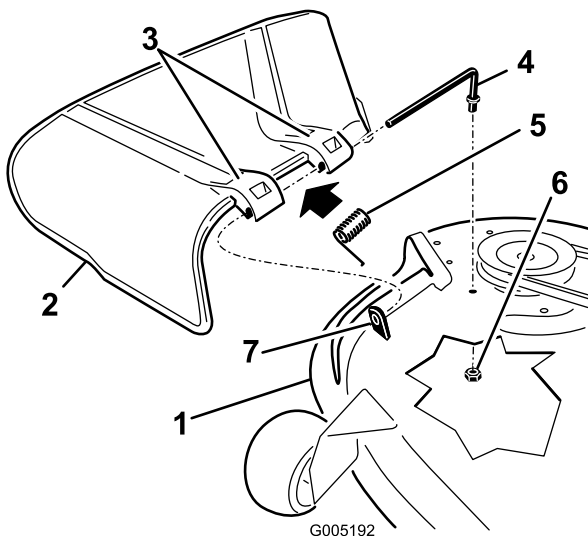

Figure 58
2. Remove the nut (3/8 inch) from the rod under the mower (Figure 58).
3. Slide the rod out of the short stand-off, spring, and grass deflector (Figure 58).
5. Replace the grass deflector (Figure 58).
7. Place the spring on the rod, with end wires down, and between the grass deflector brackets. Slide rod through second grass deflector bracket (Figure 58).
9. Secure rear end of rod into the mower with a nut (3/8 inch) as shown in Figure 58.
1. Locate items shown in Figure 58.